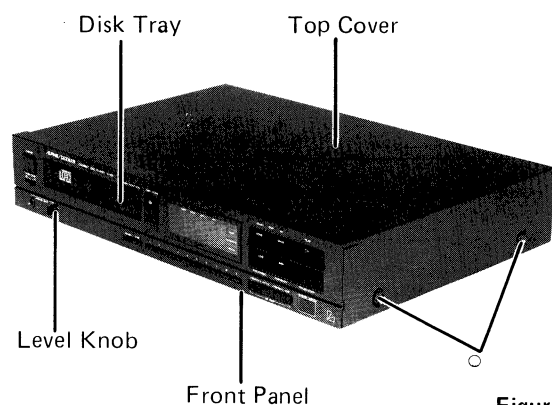

Figure 4
- (1) Remove eight screws marked "○" as shown in Figures 4 and 5-1.
- (1) After removal of the tray panel, remove the level knob as shown in Figure 4.
- (1) When removing laser pickup, solder and short-circuit patterns or leads to protect laser pickup from damage which may be caused during the removal. (Refer to Figures 4 and 6.)
- (2) Disconnect leads from connector after soldering is completed. Do not touch the pickup terminals with your hand.
- (3) When mounting laser pickup, connect the leads to connector before unsoldering the solder used to short-circuit.